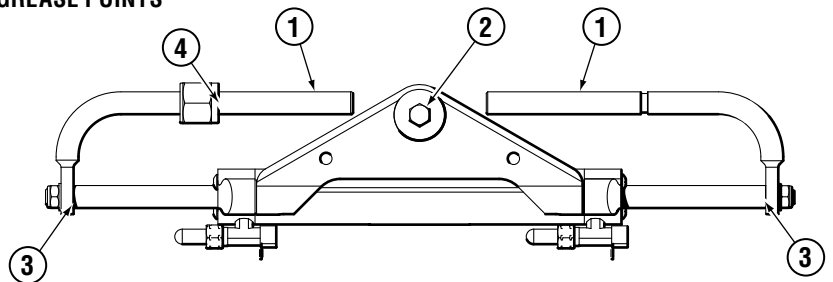

Figure 25.
4. Grease all contact points shown in Figure 25. DO NOT remove tiller bolt to re-grease.